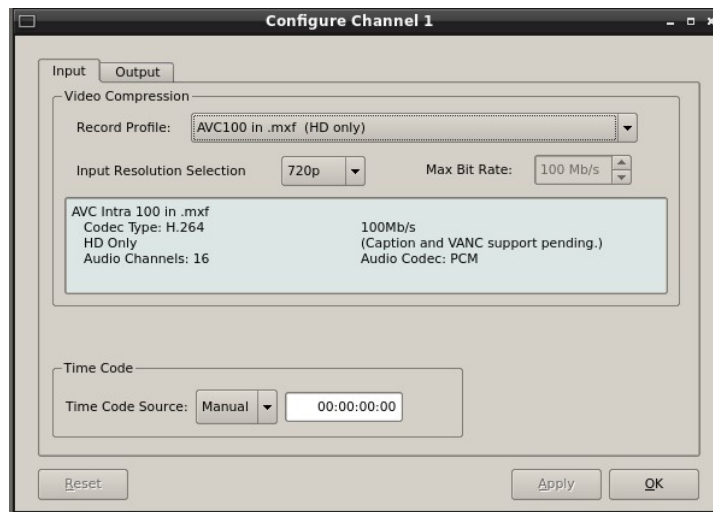

Figure 7 - Channel Configuration Dialog
Select **OPTIONS >CONFIGURE** from the Channel 1 Transport Window. The Dialog box in **Figure 7** appears. Click the arrow to open the dropdown menu to select a Record Profile.
Select **OPTIONS >CONFIGURE** from the Record Channel Transport Window. The Dialog box in **Figure 7 - Channel Configuration Dialog** appears.
Select **OPTIONS >CONFIGURE** from the Channel 1 (or 2 on 2200) Transport Window. The Dialog box in Figure 7 - Channel Configuration Dialog appears.
- Select **OPTIONS > CONFIGURE** from the Channel 1 Transport Window. The Dialog box in **Figure 7 - Channel Configuration Dialog** appears.